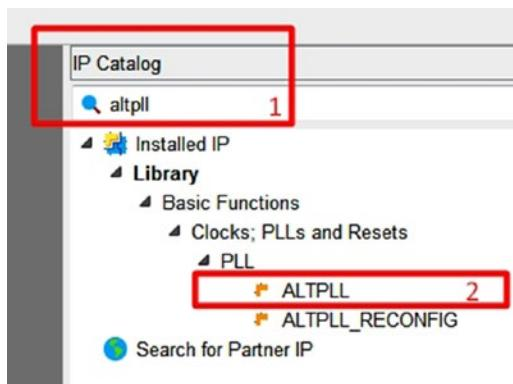

Figure 12-16. IP Catalog—Altera PLL IP
Step 1: In the IP Catalog, search for `altpll`, select the `ALTPLL`, and **double-click** it as shown in Figure 12-16.